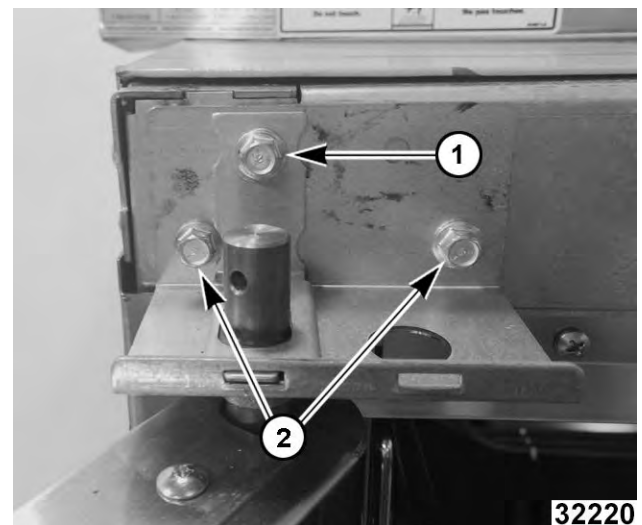

Fig. 35
3. While supporting door, remove hex bolts holding upper bearing retainer (1, Fig. 35) and upper shaft bracket (2, Fig. 35).